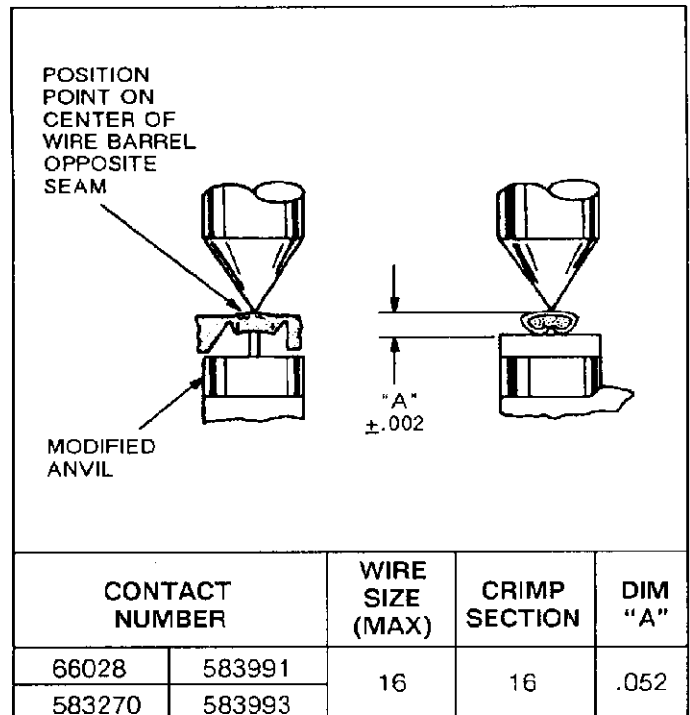

Fig. II-2
This inspection requires the use of a micrometer with a modified anvil as shown in Figure II-2. We recommend the modified micrometer (Crimp Height Comparator RS-1019-5L), which can be purchased from:
1. Refer to the chart in Figure II-2, and select a contact and a wire (maximum size) for each crimp section listed in the chart.
3. Using a crimp height comparator, measure wire barrel crimp height as shown in Figure II-2. If the crimp height conforms to that shown in the chart, the tool is considered dimensionally correct. If not, return the tool to AMP for evaluation and repair (see Paragraph II-2, REPAIR).
1. Select a contact, wire (maximum size), and the designated crimp section for the wire you are using (see Figure II-2).